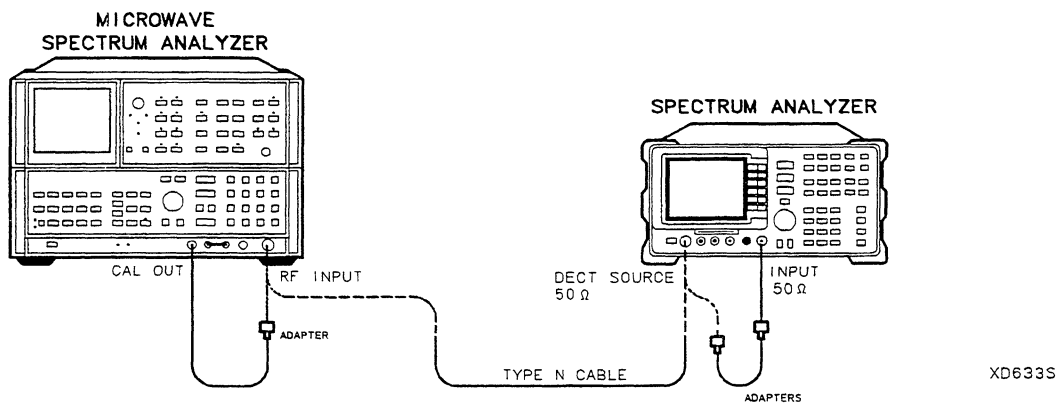

Figure 9-4. Harmonic Spurious Outputs Test Setup
2. Connect the 23 cm BNC cable between the DECT SOURCE 50 Ω and INPUT 50 Ω connectors on the spectrum analyzer, using the N(m) to BNC(f) adapters. Refer to Figure 9-4.
4. Connect the Type N cable from the DECT SOURCE 50 Ω output to the microwave spectrum analyzer RF INPUT as shown in Figure 9-4.